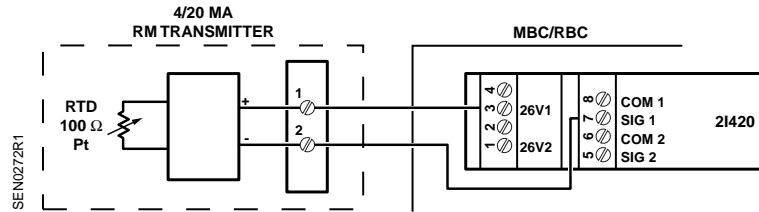
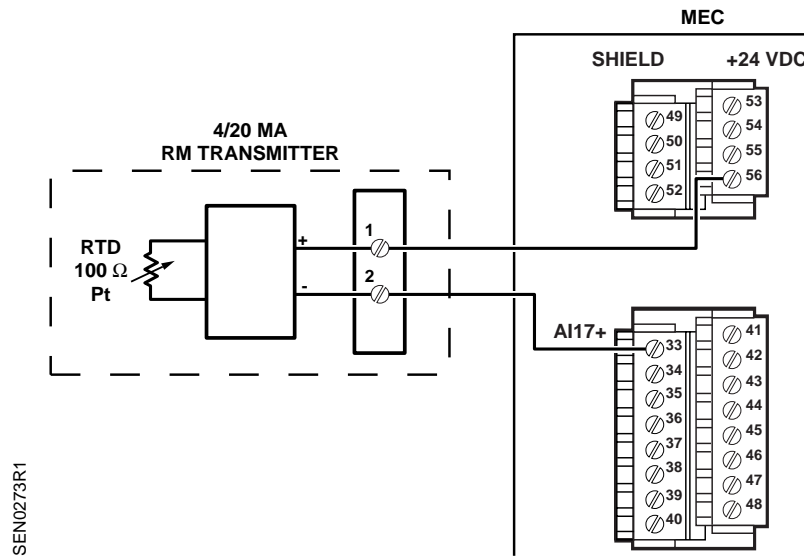

Figure 5. MBC/RBC Wiring Example.
Figure 6. MEC Wiring Example.
8. Unplug the terminal block from the back of the printed circuit board and terminate the cable wires at the sensor terminal block. See Figure 3 for sensor terminal block, Figure 5 for MBC/RBC, and Figure 6 for MEC.
13. Terminate the other end of the wires at the appropriate controller. See Figure 5 for MBC/RBC, and Figure 6 for MEC.